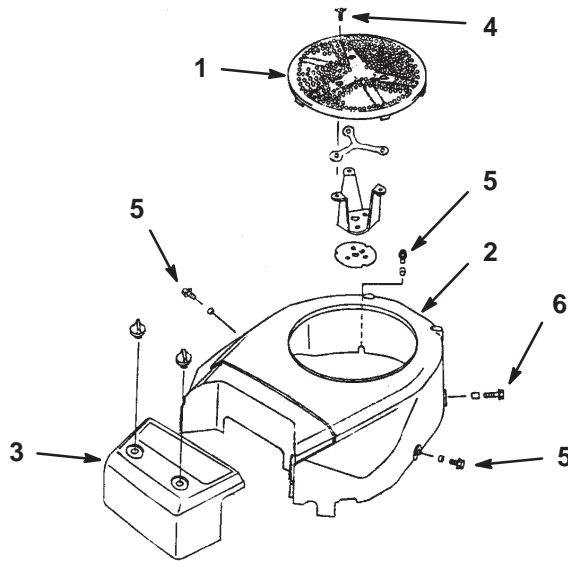

Figure 30
2. Remove the air intake screen, air cleaner cover, fan housing, and bolts (Fig. 30).
4. Reinstall the air intake screen, air cleaner cover, fan housing, and bolts (Fig. 30). Torque the bolts to 4.3 ft.-lb. (5.8 N·m).